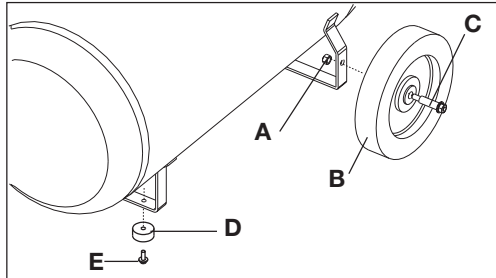
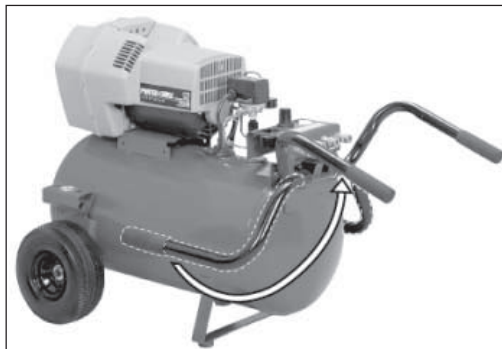

Fig. 2
Fig. 3
1. Place shoulder bolt (C) through wheel (B) and position it into the hole of the mounting bracket (protruding hub to the inside). Thread nut (A) onto shoulder bolt and tighten firmly with a 9/16" wrench. Repeat to install second wheel. See Figure 2.
2. Attach the rubber feet (D) to the bottom of the front bracket using the screws (E) provided.
3. Rotate handle into operating position as shown in Figure 3.